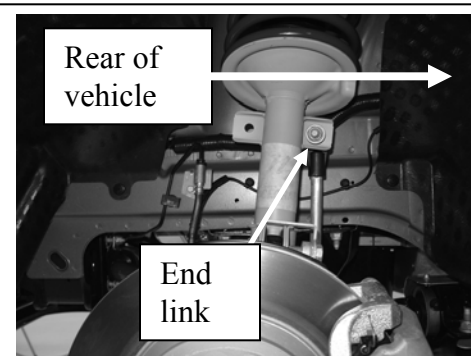

Figure 3
4. Put the sway bar end link stud into rear most hole on strut tower, tighten using a ½” impact gun with a 18mm deep socket. (Figure 3) **Torque to 85 ft.-lbs.**